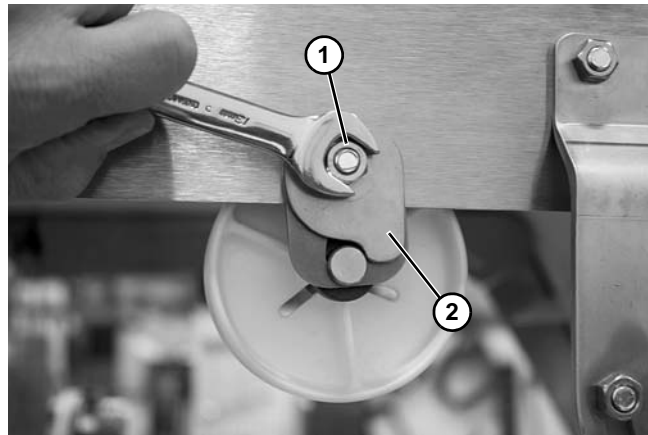

Figure 90
1. Loosen nut (**Figure 90, item 1**) and rotate return clip (**Figure 90, item 2**) up on both sides of conveyor. Loosely tighten nuts to hold clip in place.